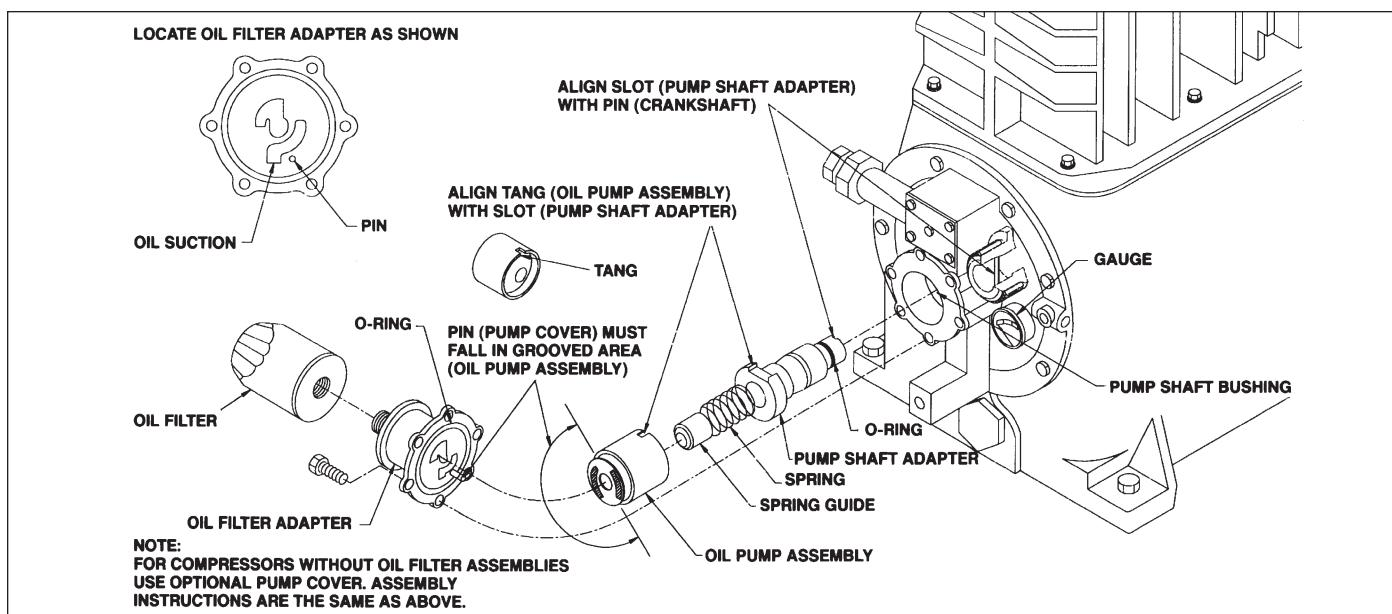

Figure 5.8
4. Before reassembling the oil pump mechanism, replace the O-rings in the oil pump cover and on the oil pump adapter shaft (see figure 5.8).
8. Install the pump cover so the pin on the case is in the opening on the oil pump assembly as shown in figure 5.8. When you are sure the pin is properly aligned, install the cover bolts finger tight.
1. To check the oil pump, unbolt the pump cover and remove the oil pump, spring guide, spring, and oil pump shaft adapter as shown in figure 5.8.